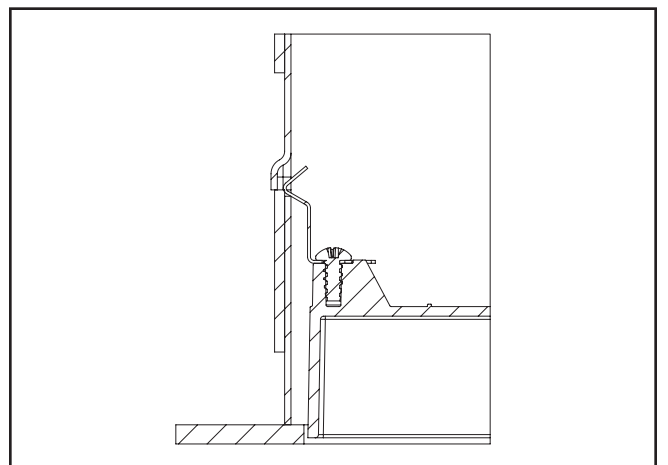

Figure 2.8.
- Make sure, springs are placed on the louvers provided in housing. (Figure 2.8)